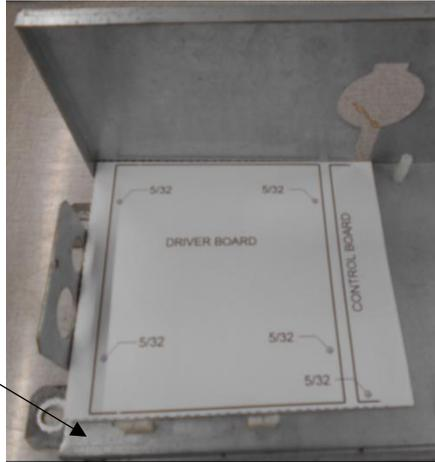

Figure 13 - Drill Pattern placement
- Remove drill template from manual (last page of manual). Fold or cut page of drill template along dotted lines and place in top left corner of operator as shown in Figure 13 - Drill Pattern placement
- With the drill template secure into the corner of the operator, drill the five (5) 5/32 inch holes at locations shown on the template.
- Drill a 6th .106" dia hole for self-tapping grounding screw in area shown in figure 13.